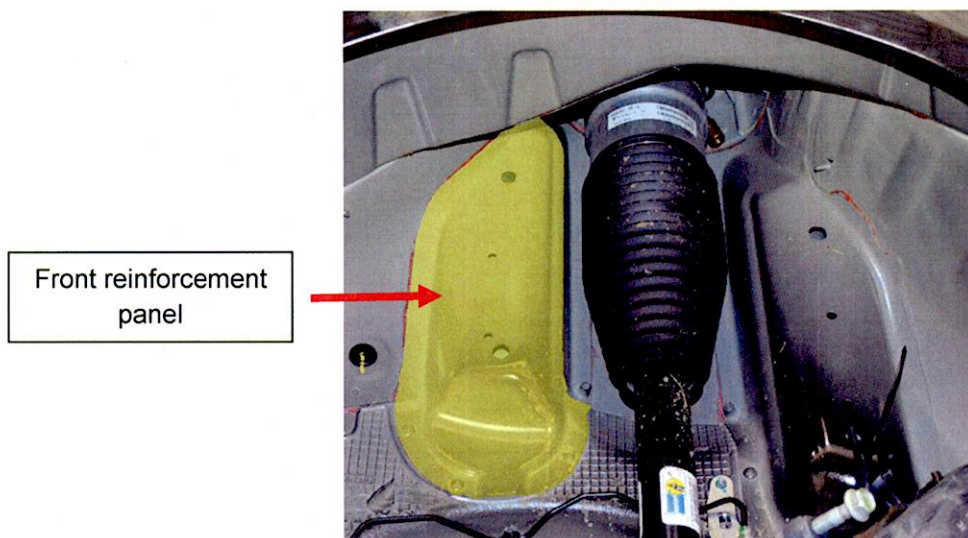

Figure 1
2. Check the forward part of the LH rear wheel well for a front reinforcement panel (Figure 1). If one is present, no work is needed. If one is not present, continue this procedure.